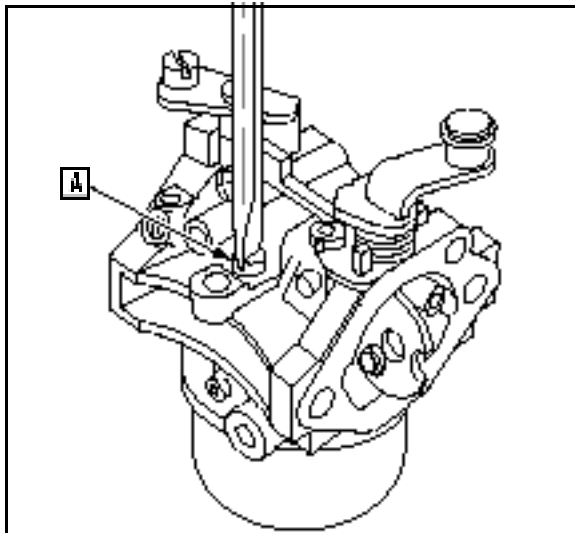

Fig. 76
6. Remove pilot jet ([A] Fig. 76) with screwdriver # 19062.